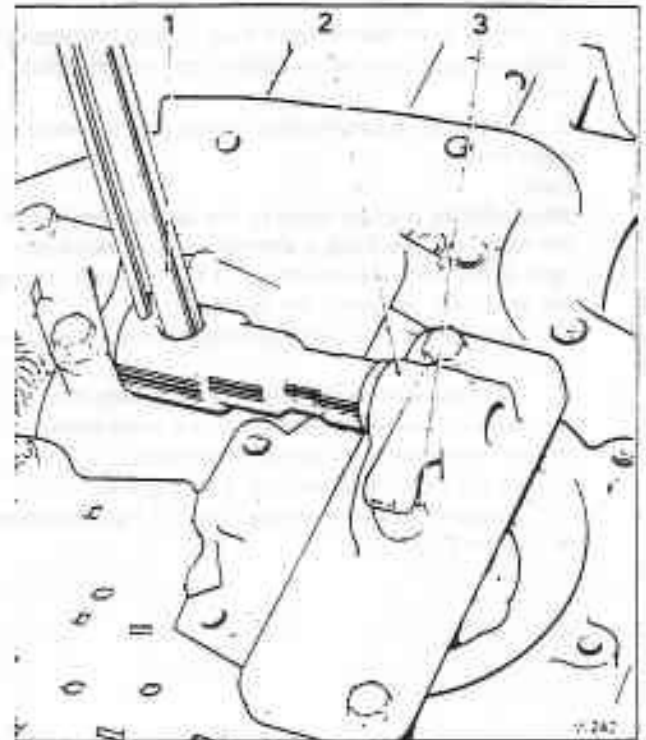

Fig. T13-6 Selecting the band apply pin
1. Fit the band apply pin selector gauge (J-21370-6) onto the bottom face of the transmission casing. The gauge must fit over the rear servo bore with the hexagonal nut on the side of the gauge facing the parking linkage. The smaller diameter end of the gauge pin (J-21370-5) should be positioned in the servo pin bore (see fig. T13-6).
- 6. To determine the correct size pin to use, apply 34 Nm, 3,5 kgf m (25 lbf ft) to the hexagonal nut on the side of the gauge (see fig. T13-6). This will cause the lever on top of the gauge to depress the stepped gauge pin into the servo pin bore, simulating the actual operation of the servo.